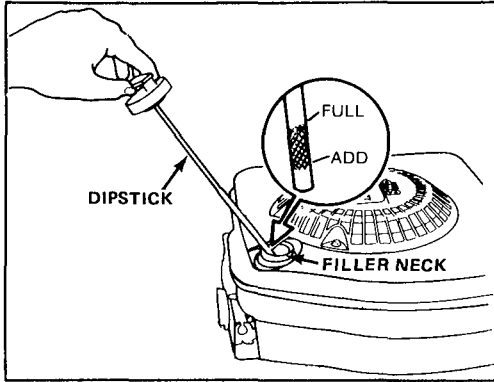

Figure 5
Before each use, assure oil level is between FULL and ADD marks on dipstick (Fig. 5). Add oil if level is low.
3. Wipe dipstick and insert it into filler neck. Rotate cap clockwise 1/4 turn. Then remove dipstick and check level of oil on side of dipstick with FULL and ADD marks (Fig. 5). If level is low, add only enough oil to raise level to FULL mark on dipstick. **DO NOT FILL ABOVE FULL MARK BECAUSE ENGINE COULD BE DAMAGED WHEN STARTED. POUR OIL SLOWLY.**
1. **CHECK OIL LEVEL**—Maintain oil level between ADD and FULL marks as shown on dipstick (Fig. 5).